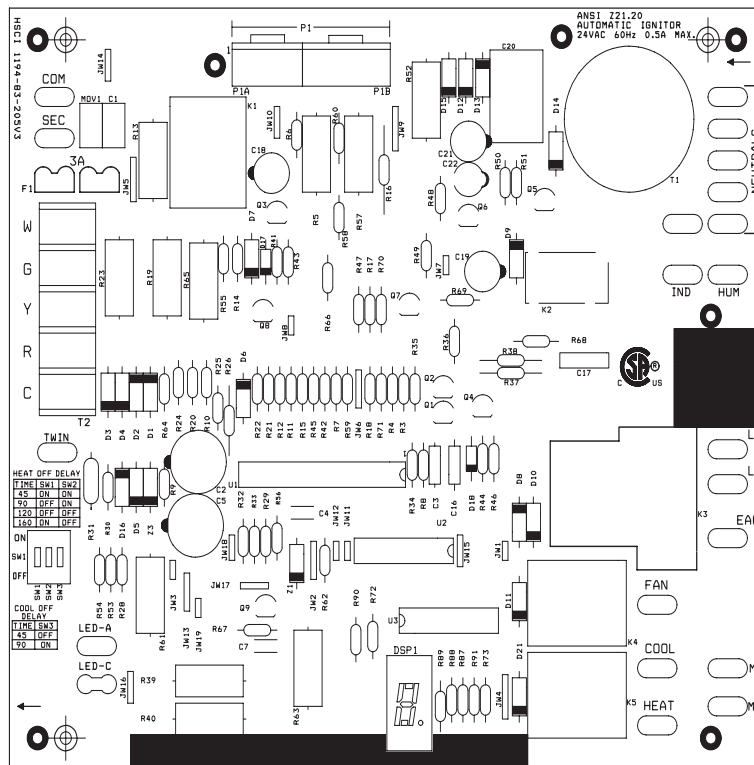
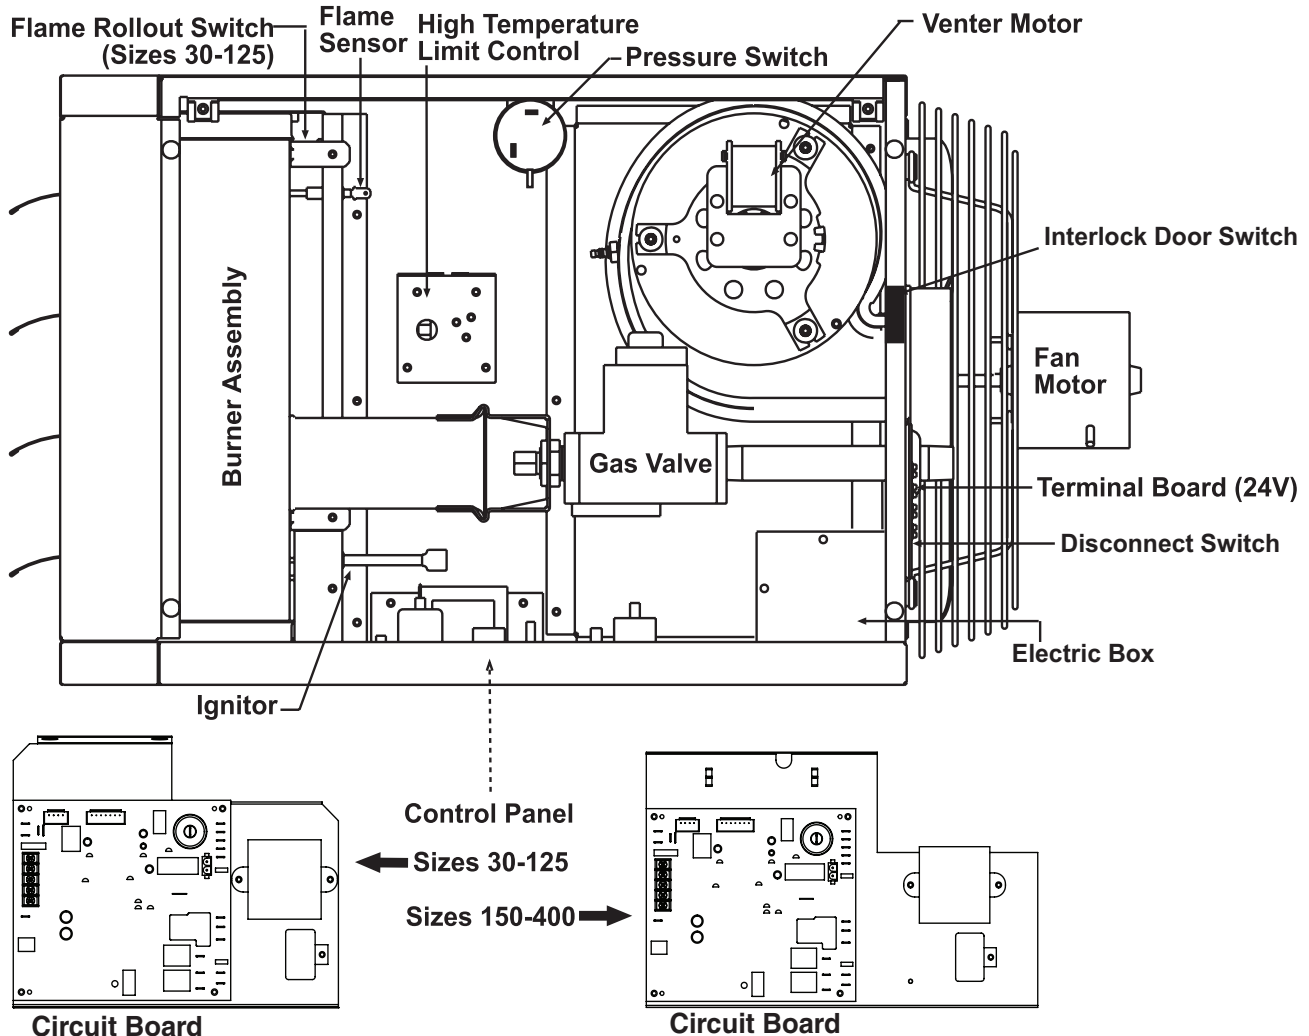

Figure 11. Circuit Board (DSI Control Module)
Figure 12. Component Locations (Typical)
- The circuit board (see Figure 11) is located inside on the bottom of the control compartment. The circuit board is polarity sensitive. It is advisable to check the electrical supply ensure that the black wire is the **hot** wire and that the white wire is the **neutral** wire. The **hot** wire must be connected to terminal L1 on the circuit board.
Locations for the following controls are shown in **Figure 12**.
- The pressure (combustion air proving) switch (see **Figure 12** for location) is a pressure-sensitive switch that monitors air pressure to ensure that proper combustion airflow is available.
All units are equipped with a temperature-activated, automatic-reset high temperature limit control (see Figure 12 for location). The control is factory-set and is non-adjustable. If the setpoint is reached, the control interrupts the electric supply to the gas valve. This safety device provides protection in the case of motor failure or lack of airflow due to a restriction at the inlet or outlet.
Unit sizes 030–125 of UDX and UDZ models are equipped with a temperature-activated, manually-reset flame rollout switch (see Figure 12 for location). The flame rollout switch is located at the top of the burner assembly. The switch is factory-set and is non-adjustable. If the setpoint is reached, the switch interrupts the electric supply to the gas valve. If the flame rollout switch activates, identify and correct the cause before resetting the switch.
All unit sizes of UBZ and UDZ models are equipped with an interlock door switch (see Figure 12 for location) that prevents the heater from operating when the service door panel is open. The service panel is equipped with a pliable gasket that fully seals the door to provide added protection to prevent building air from entering the combustion zone of the heater.
The combination gas valve (see Figure 12 for location) is powered by the 24V control circuit through the thermostat and safety controls. The diaphragm-type valve is pre-set at the factory and provides regulated gas flow.
The venter motor (see Figure 12 for location) is assembled to the venter wheel and operates to provide combustion airflow. Operation is controlled by the circuit board (see Figure 11). Refer to the Circuit Board \(DSI Control Module\) section for details.
The heater's ignition system is controlled by a circuit board (Direct-Spark Integrated (DSI) control module, see Figure 11) that monitors the safety devices and controls the operation of the fan and venter motors and the gas valve between heat cycles. The module's seven-segment display is visible through a viewport on UBZ and UDZ models. To view the seven-segment display on UBX and UDX models, the door panel requires removal. In addition, there is a status LED on the bottom of the heater. Its status indications are **off** (heater is not powered or control board fault), **steady on** (heater is on with no faults), or **flashing** (heater is on with fault(s)). Additional status indications appear on the display at the bottom of the control module (labeled as DSP1, see Figure 11). The display's codes are listed and described in the Unit Troubleshooting Using DSI Control Module section.